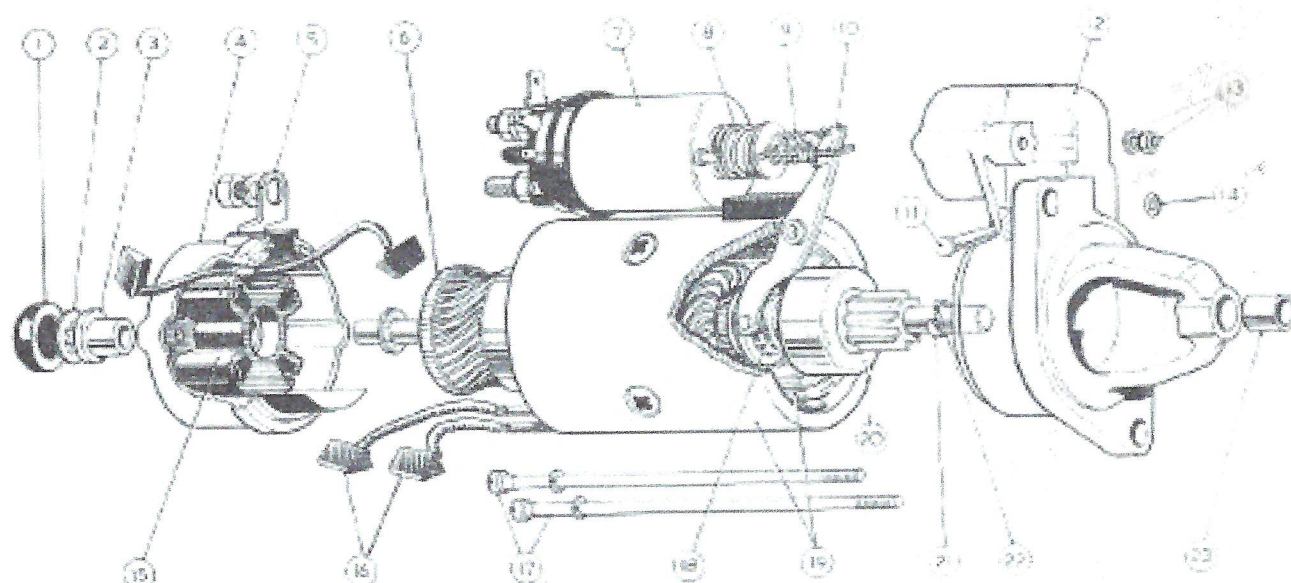

Fig. 1 Starter motor, dismantled
it extends through the commutator end bracket (refer Fig. 1, item No. 2).
There is no need to set the drive pinion and therefore the operating position of the drive engagement lever is non-adjustable. The plain-type pivot pin on which the lever swivels is retained in the fixing bracket by a small special type of 'Spire' retaining ring (refer Fig 1, item 14).